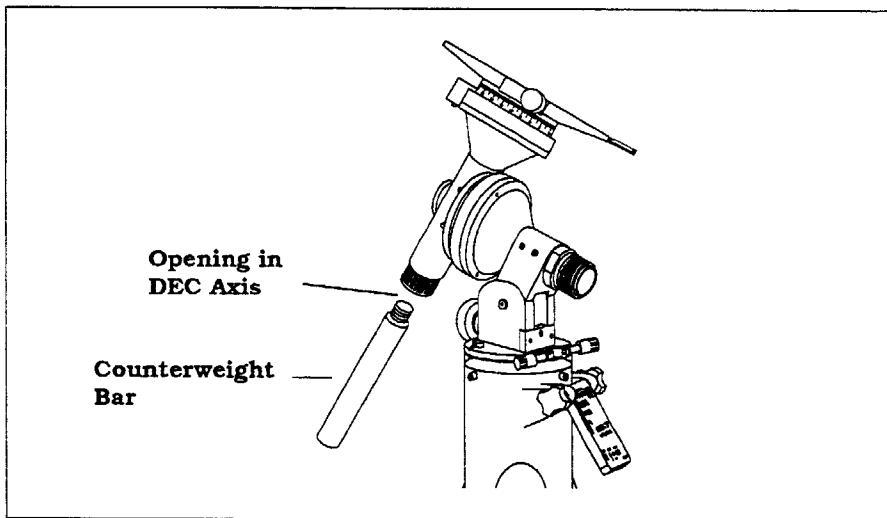

Figure 2-5
1. Locate the opening in the equatorial mount on the DEC axis (see figure 2-5). It is opposite the telescope mounting platform.